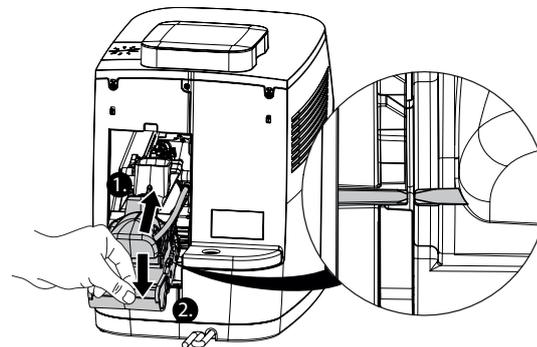

fig. 16: Inserting the brewing unit
6. Insert the brewing unit into the machine and push it in until, the locking latches are aligned. (fig. 16).